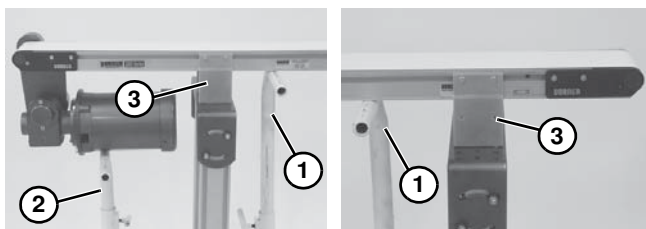

Figure 44
1. Place temporary support stands (**Figure 44, item 1**) at both ends of the conveyor. Place an additional support stand under the drive motor (**Figure 44, item 2**), if equipped. See WARNING.
2. Remove mounting brackets (**Figure 44, item 3**) from one side of conveyor. (Reverse steps 3 & 4 of “2200 Series Mounting Brackets” section beginning on page 9.) If equipped with heavy load drive package, remove brackets from side opposite drive cover (**Figure 45, item 1**).
1. Ensure temporary support stands (Figure 44, item 1) are placed at both ends of the conveyor. Place an additional support stand under the drive motor (Figure 44, item 2), if equipped. See WARNING.